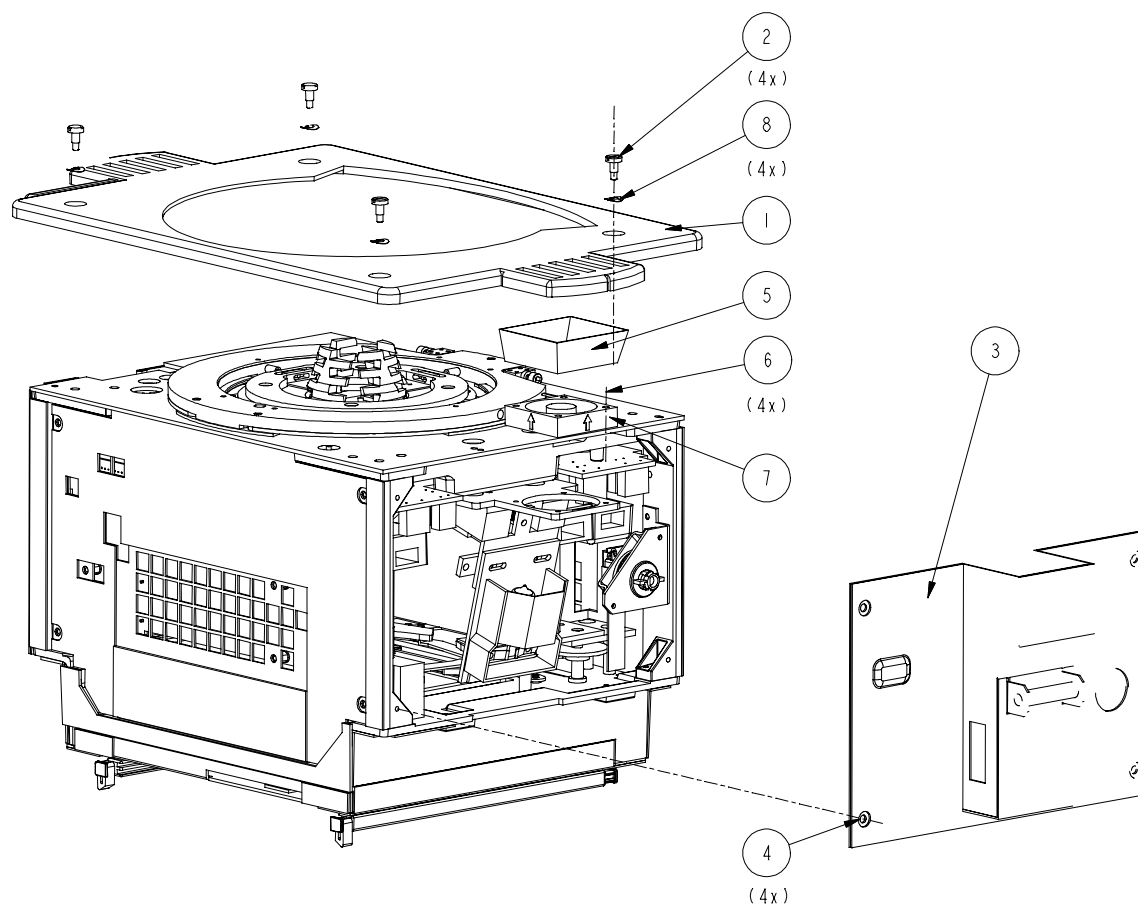

Figure 19: Replace Fan
2. Remove lamp side plate, item 3, Figure 19 using the four screws (item 4, Figure 19).
3. Remove bottom plate, item 1, Figure 19, using the four screws, item 2 and washers item 8.
4. Remove ventilation shaft, item 5, Figure 19, from fan.
6. Remove fan, item 7, using the four screws, item 6, Figure 19).